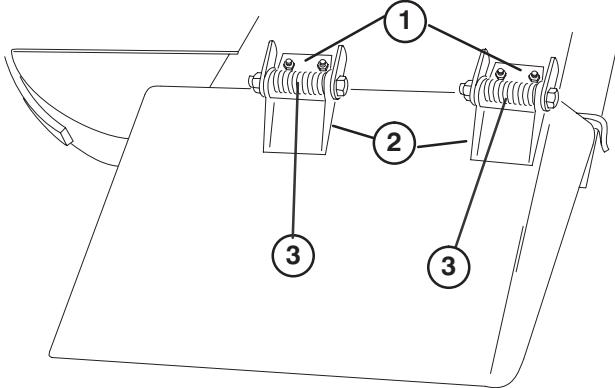

Figure 26
2. Remove two capscrews, locknuts and springs securing deflector mounts to pivot brackets (Fig. 26).
5. Position deflector mounts on pivot brackets and secure parts together with capscrews, locknuts and springs (Fig. 26). Both locknuts must face each other. Tighten locknuts until they are flush against deflector pivots.